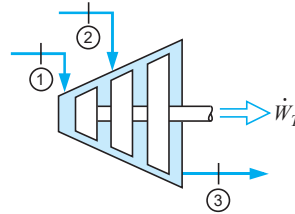

FIGURE P6.76
6.76 A steam turbine receives steam from two boilers (see Fig. P6.76). One flow is 5 kg/s at 3 MPa, 700°C and the other flow is 15 kg/s at 800 kPa, 500°C . The exit state is 10 kPa, with a quality of 96%. Find the total power out of the adiabatic turbine.